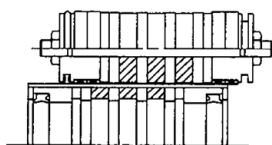

Fig. 1 Direction of the slider
- 1-4. The piston slider and external slider have a set direction (L type and $\phi 6$, $\phi 10$). Refer to the diagram below for details. Connect the external slider (slide block) and the piston slider and insert into the cylinder tube as shown in Fig. 1-(a). If the positioning resembles Fig. 1-(b), rotate the piston slider to insert.